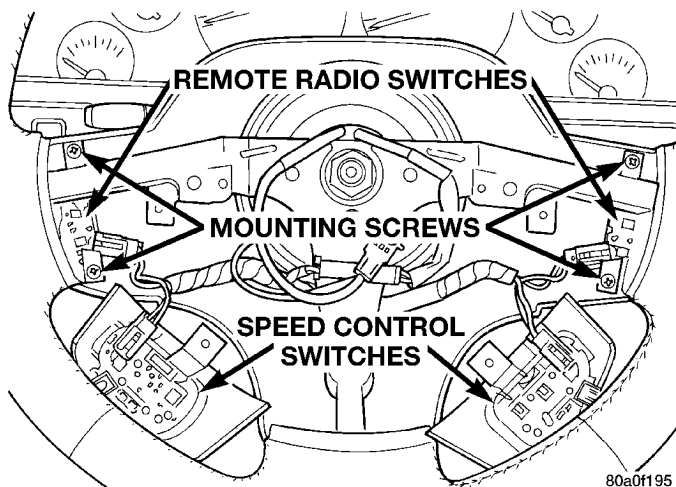

Fig. 7 Remote Radio Switches Remove/Install
(7) Remove the two screws that secure the remote radio switch to the steering wheel spoke (Fig. 7).